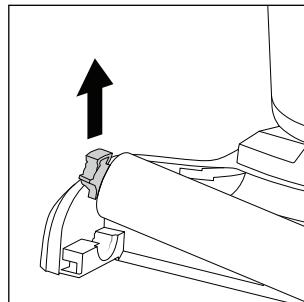

Fig. 34
- ◆ Take hold of the bracket on the left side of the rotary brush **6** and pull it upwards to remove the rotary brush from the foot section **3** (see fig. 34).